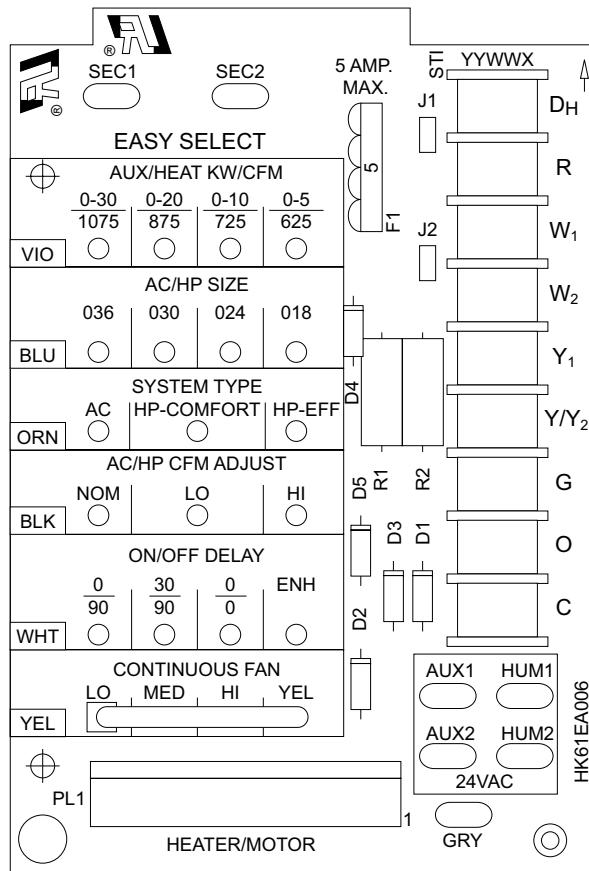

Fig. 7 – Easy Select Board
**NOTE:** Layout of actual PCB is depicted in Fig. 7.
The Easy Select taps are used by installer to configure system. The ECM2.3/5.0 uses selected taps to modify its operation to a pre-programmed table of airflows. Airflows are based on system size and mode of operation and those airflows are modified in response to other inputs such as the need for de-humidification (Fig. 7).
The installer must select the auxiliary heat airflow approved for application with kW size heater installed. Each select pin is marked with a range of heaters for which airflow (also marked) is approved. For increased comfort select the narrowest kW range matching the heater size, for example, 0-10 for a 10-kW heater. This airflow must be greater than the minimum CFM for electric heater application with the size system installed for safe and continuous operation. Note that airflow marked is the airflow which will be supplied in emergency heat mode and heating mode on air conditioners when electric heat is primary heating source. To ensure safe heater operation in heat-pump heating mode, when electric heaters are energized, the ECM2.3/5.0 will run the higher of heat pump airflow and electric heater airflow. The factory default selection is largest heater range approved (Fig. 7).
The factory default setting for air conditioner or heat pump size is largest unit meant for application with model of fan coil purchased. The installer needs to select air conditioner or heat pump size to ensure that airflow delivered falls within proper range for size of unit installed in all operational modes (Fig. 7).
The factory setting is AC (Fig. 7).
Select low, nominal, or high airflow. The factory selection is NOM. The adjust selections HI/LO will regulate airflow supplied for cooling and heat pump heating modes only, +15 percent and -10 percent respectively. The adjust selection options are provided to adjust airflow supplied to meet individual installation needs for such things as noise, comfort, and humidity removal (Fig. 7).
Select desired time delay profile. Four motor-operation delay profiles are provided to customize and enhance system operation (Fig. 7). The selection options are:
Select desired continuous-fan profile LO, MED, or HI. Airflow are provided to customize and enhance the continuous fan functions (Fig. 7). The possible selections are: